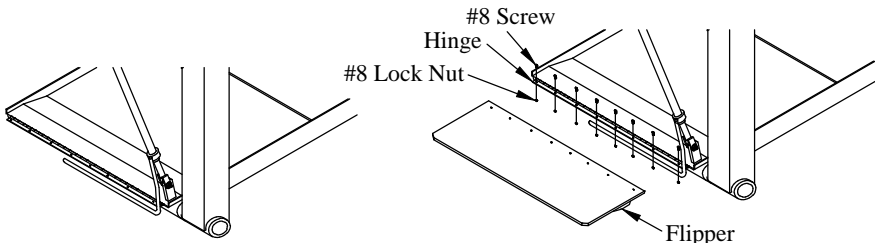

Figure 23: Flipper arm assembled.
11. **Reinstall** the self-closing rod and 3/8" x 1-1/4" bolt weldment (Figure 23).